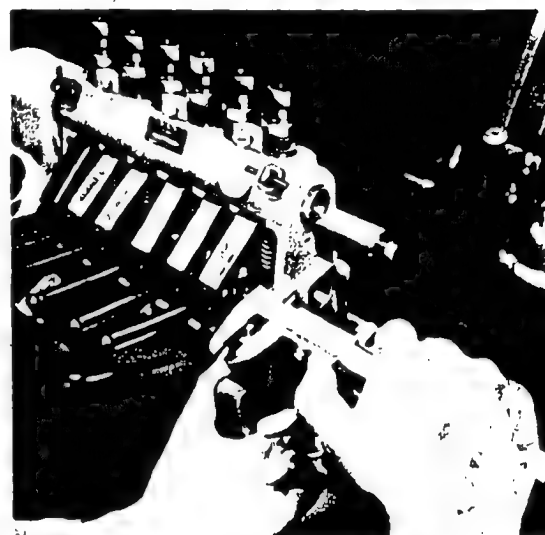

Fig. 61 Measuring the camshaft projection
a) If dismantled, press oil seals (Simmer rings) (39) or packing washers and outer ball-bearing races into endplate. Tighten endplate (45) well with all screws. Insert camshaft (in order to protect the simmer ring, a mounting sleeve has to be fitted to the camshaft) and tighten second endplate likewise with all screws.
b) Check the projection of camshaft (from pump face to cone) before measuring the end play, to ensure correct position of cams relative to the roller tappets. To do so, press measuring bar EFEP 281 (with 17 mm and 20 mm taper for sizes K, A, B and BV) or EFEP 282 (with 25 mm and 35 mm taper for sizes BV, Z and Y) on camshaft cone and check projection (distance from pump face) with slide gauge (Fig. 61).